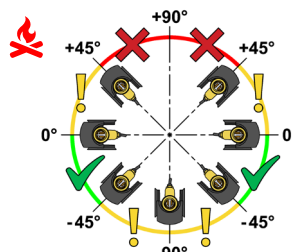

Fig.7
- **Models with nominal flow rate from 3,5 to 10 m³/h:** the flow sensor can be oriented with inclinations between 45° and -90°. In particular, orientation with an angle between -45° and -90° is permitted if the absence of impurities and dirt inside the heat transfer fluid has been verified. Orientation with an angle between 45° and 0° is permitted if the absence of air inside the heat transfer fluid has been verified (Fig.7).